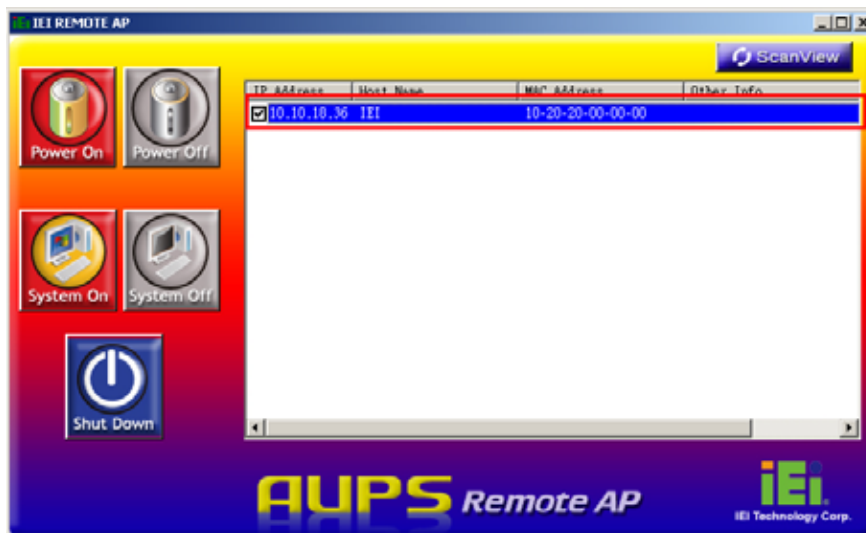

Figure 8-17: IEI REMOTE AP – IP Address
Step 11: To access the web interface for advanced monitoring and functions, double click the IP address of the connected eKINO-945GSE (Figure 8-17).